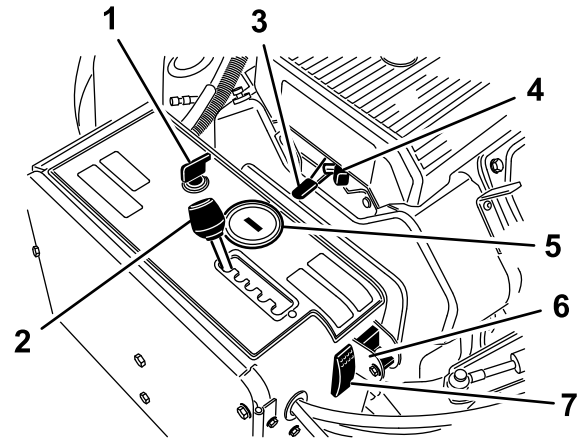

Figure 12
Use the ignition switch (Figure 12), to start and shut off the engine. The switch has 3 positions:
Move aerator spacing lever (Figure 12) to desired hole spacing or to T for transport.
Use the throttle lever (Figure 12) to control the engine speed. Moving throttle lever forward increases engine speed (FAST position); backward decreases engine speed (SLOW position). The engine speed regulates the speed of the coring head and controls the ground speed of the machine.
- When the engine shuts off, the hour meter/tachometer (Figure 12) displays the number of hours the engine has run.
Use the choke when starting a cold engine (Figure 12).
Rotate the switch to the down position to turn off the TrueCore feature (Figure 12). Remove the bolt to access the manual ground switch.
Press the system reset switch (Figure 12) to raise the coring head if the machine becomes disabled (e.g., the machine runs out of fuel).